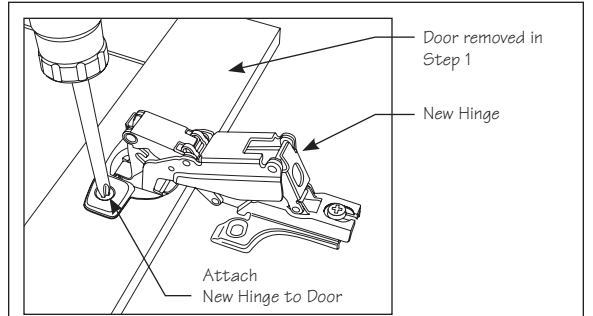

Figure 3
- 3** Using the attachment screws that were removed in STEP 2, attach the new hinge to the door. See Figure 3.